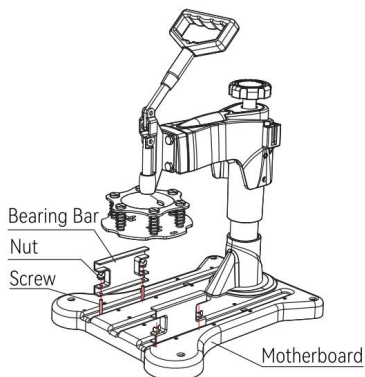

Fig 3
3. Use 4 screws from the bottom up, through the bearing bar from the back of the backplane, and then lockit with hand screws (as shown in figure3).